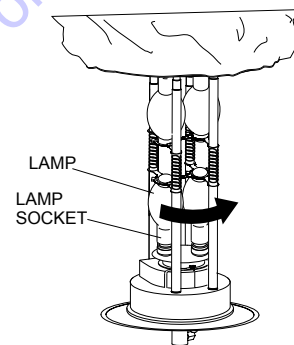

Figure 18. Removing Lamp
4. Remove lamp from the lamp socket by turning lamp counterclockwise. See Figure 18.